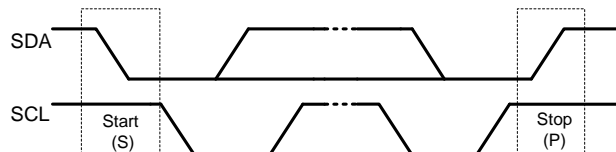

Figure 12: Start and Stop Commands
All transactions begin with a start (S) command and are terminated by a stop (P) command. Start and stop commands are always generated by the master. A start command is defined as a high-to-low transition on the SDA line while the SCL is high. A stop command is defined as a low-to-high transition on the SDA while the SCL is high (see Figure 12).